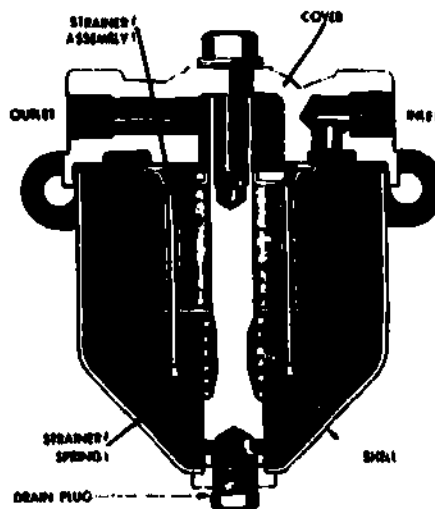

Fig 1-7. Fuel filter.
c. Function. A common type of filter that is connected in the fuel line is shown in figure 1-7. The cover or top contains the inlet and outlet passages. The strainer (filter element) is made of round metal disks set very close together. A sediment bowl encloses the filter element and is sealed against the cover by a gasket. During operation, fuel flows into the sediment bowl through the inlet passages in the cover. Once inside the bowl, fuel passes between the disks into the center of the element and on through the cover outlet passage. Pieces of trash or particles of dirt that enter the filter are too large to pass between the disks. They are stopped at the outer edge of the disks and then drop to the bottom of the sediment bowl. This filter will also trap water. Water in gasoline usually forms into small balls or droplets that are too large to pass between the disks, so they, too, fall to the bottom of the sediment bowl. The water and trash that collect in the sediment bowl can be removed by unscrewing the drain plug in the bottom of the bowl. Other filters function in a similar manner but may use a ceramic filter element or one made of some other material. Most filter elements can be removed for cleaning.